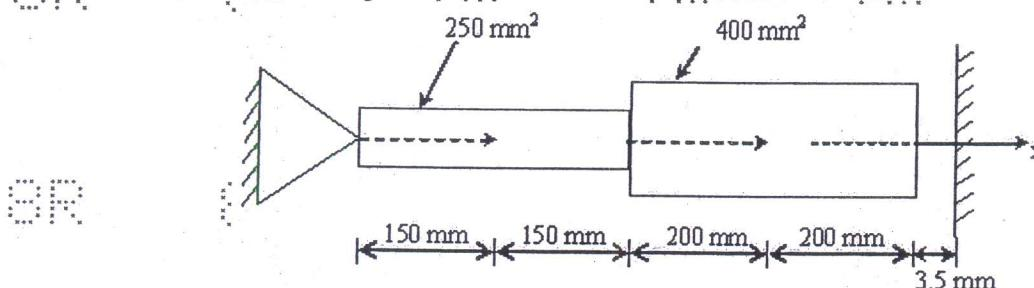

Figure.6
b) Determine the nodal displacements, element stresses and support reactives for the bar as shown in Figure.6. Take  $E = 200 \times 10^9 \text{ N/m}^2$ . [15]